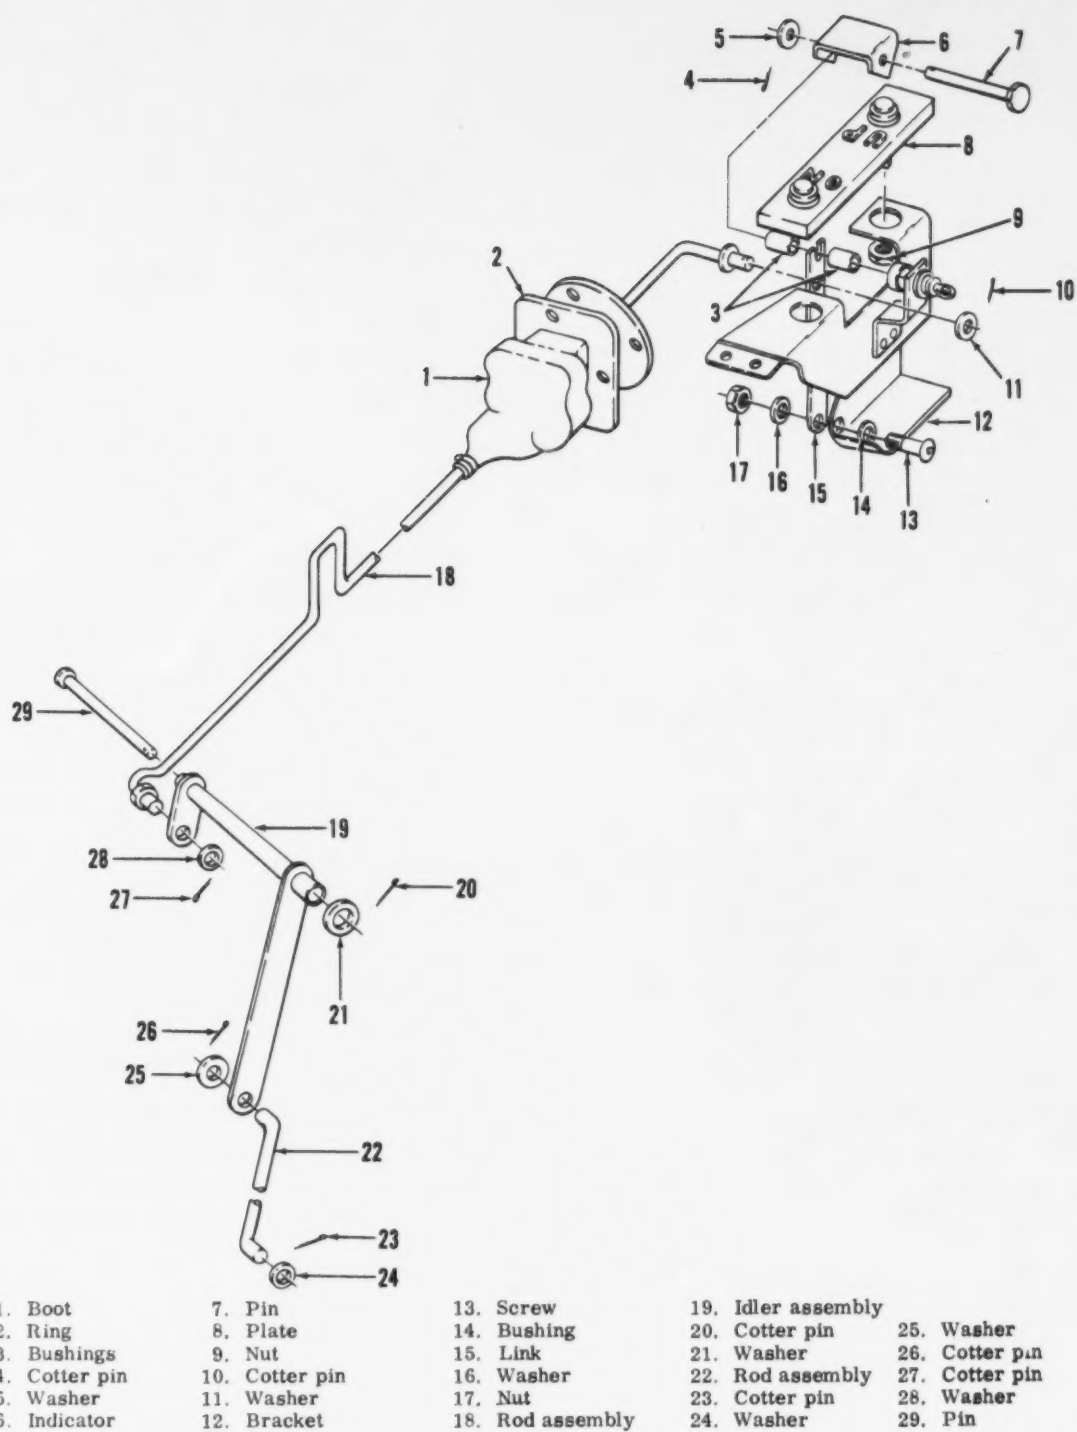

Figure 4-39. Nose wheel position indicator system (U-8D, U-8G, and RU-8D)
4-298. The nose wheel position indicator assembly provides a mechanical indication as to the position of the nose landing gear assembly. The nose wheel position indicator assembly consists of a rod assembly (18, figure 4-39), plate (8),
a. Removal. (1) Remove carpeting and floorboard from around plate (8, figure 4-39).
(2) Remove cotter pin (4), pin (7), washer (5), and bushings (3) attaching indicator (6) to link (15). Remove indicator.
(3) Disconnect wires from lights in plate (8). Remove nuts (9) from lights and remove plate with lights from bracket (12).
(4) Remove cotter pin (10) and washer (11) and remove aft end of rod assembly (18) from link (15).
(5) Remove screw (13), bushing (14), washer (16), and nut (17) securing link (15) to bracket (12) and remove link.
(6) Remove studs attaching boot (1) and ring (2) to structure of nose wheel well.
(7) Remove cotter pin (27) and washer (28) securing forward end of rod assembly (18) in idler assembly (19). Remove rod assembly (18), boot (1), and ring (2), as an assembly, from nose wheel well.
(8) Remove clamps securing boot (1) on rod assembly (18) and remove boot and ring (2).
(9) Remove cotter pin (26) and washer (25) securing end of rod assembly (22) in idler assembly (19). Remove end of rod assembly from idler assembly.
(10) Remove cotter pin (23) and washer (24) securing end of rod assembly (22) in bracket of nose gear door. Remove rod assembly from nose wheel well.
(11) Remove cotter pin (20), pin (29), and washer (21) and remove idler assembly (19) from structure of nose wheel well.
b. Cleaning. Clean nose wheel position indicator assembly with dry cleaning solvent (item 6, table 1-8) and dry with filtered, compressed air.
d. Installation. (1) Position idler assembly (19, figure 4-39) in structure of nose wheel well and install pin (29), washer (21), and cotter pin (20).
(2) Position end of rod assembly (22) in long arm of idler assembly (19) and secure with washer (25) and cotter pin (26).
(3) Position other end of rod assembly (22) in bracket of nose gear door and secure with washer (24) and cotter pin (23).
(4) Position boot (1) and ring (2) on rod assembly (18) and secure boot on rod assembly with clamps.
(5) Position rod assembly (18) in structure of nose wheel well and forward end of rod